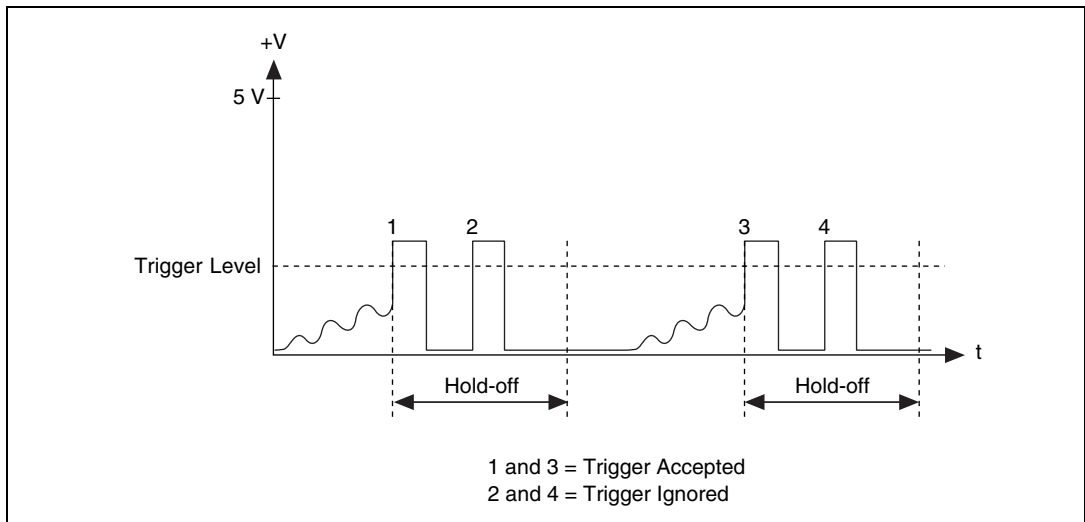

Figure A-6. Difficult Pulse Train Signal
- **General signal shape**—Some signals are easy to capture by ordinary triggering methods. A few iterations on the trigger level finally render a steady display. This method works for sinusoidal, triangular, square, and saw tooth waves. Some of the more elusive waveforms, such as irregular pulse trains, runt pulses, and transients, may be more difficult to capture. Figure A-6 shows an example of a difficult pulse-train trigger.
Ideally, the trigger event should occur at condition one, but sometimes the instrument may trigger on condition two because the signal crosses the trigger level. You can solve this problem without using complicated signal processing techniques by using *trigger hold-off*, which lets you specify a time from the trigger event to ignore additional triggers that fall within that time. With an appropriate hold-off value, the waveform in Figure A-6 can be properly captured by discarding conditions two and four.